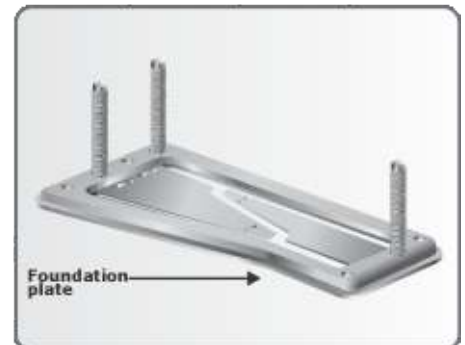

FIGURE 18.
1. The foundation plate can either be set into a concrete foundation, as in Figures 11 to 17, or bolted down onto an existing concrete plinth as shown in Figure 18 and 19.